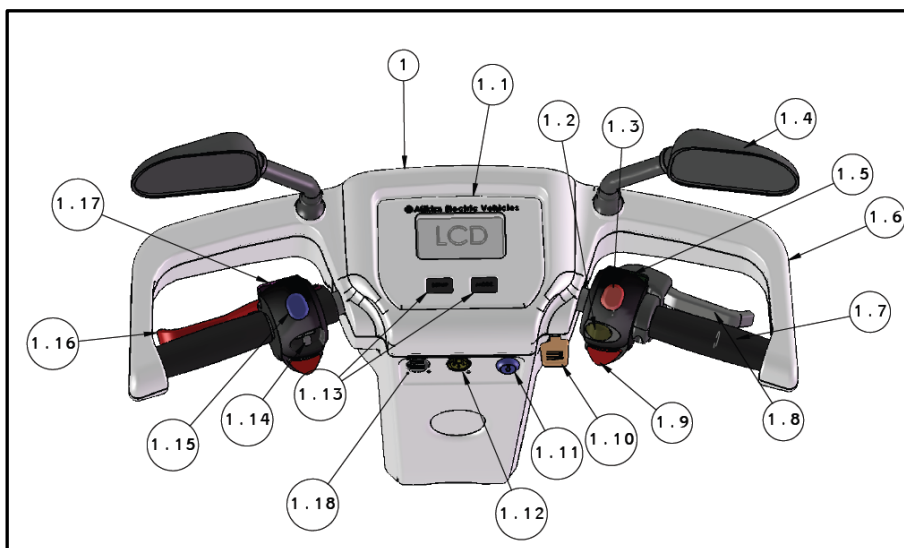

Figure 6
(Numbers refer to Figures 6 and 7)
**(Numbers refer to Figures 6 and 7)**